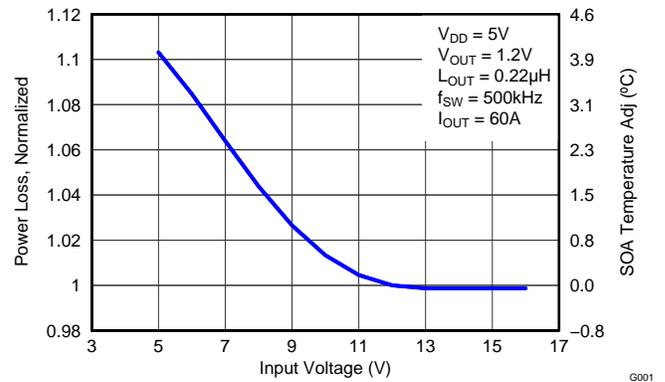

Figure 8. Normalized Power Loss vs Input Voltage
- Normalized Power Loss for input voltage \approx 1.06 (Figure 8)
- SOA adjustment for input voltage $\approx 2.4^{\circ}\text{C}$ (Figure 8)